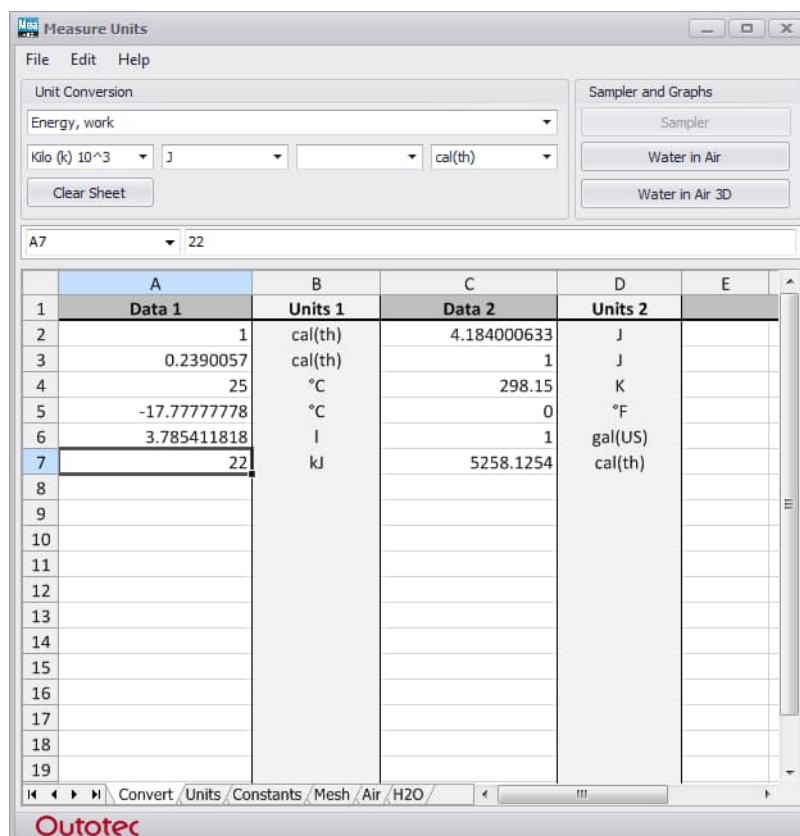

Fig. 1. Unit Conversion module.
The user interface of the Units module is shown in **Fig. 1**. All the data is given in the workbook, which consists of six sheets. The first Convert sheet works as a simple unit conversion calculator, which is used in the following manner:
4. Type the values into column 1 or 3. This will automatically show the converted value using the selected units. You can change the quantities, units, and prefixes whenever you want, as seen in **Fig. 1**.